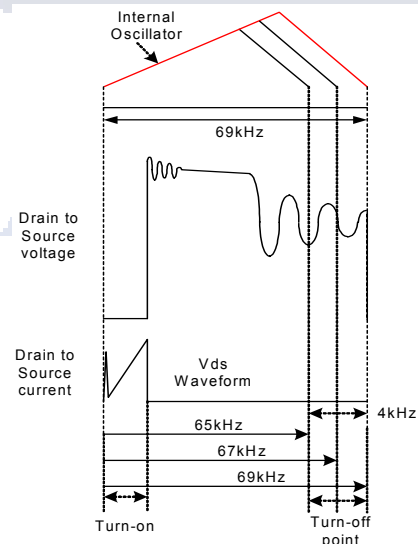

Figure 11. Frequency Modulation Waveform
7. Frequency Modulation : EMI reduction can be accomplished by modulating the switching frequency of a switched power supply. Frequency modulation can reduce EMI by spreading the energy over a wider frequency range than the band width measured by the EMI test equipment. The amount of EMI reduction is directly related to the depth of the reference frequency. As can be seen in Figure 11, the frequency changes from 65kHz to 69kHz in 4mS for the FSDM0265RN. Frequency modulation allows the use of a cost effective inductor instead of an AC input mode choke to satisfy the requirements of world wide EMI limits.